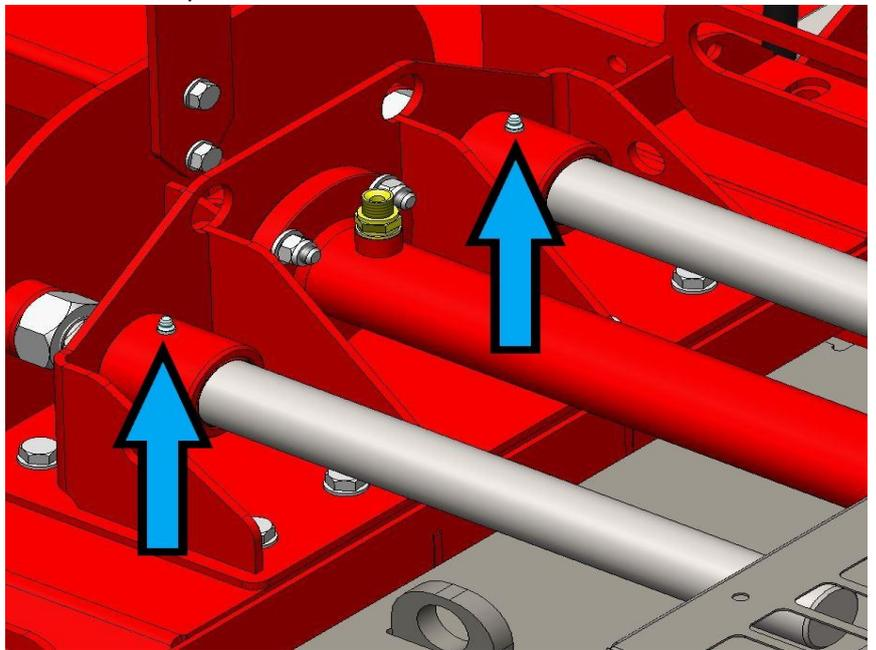

Figure 48.
8. Grease nipples of the wood measuring device (2 pcs, Figure 48).